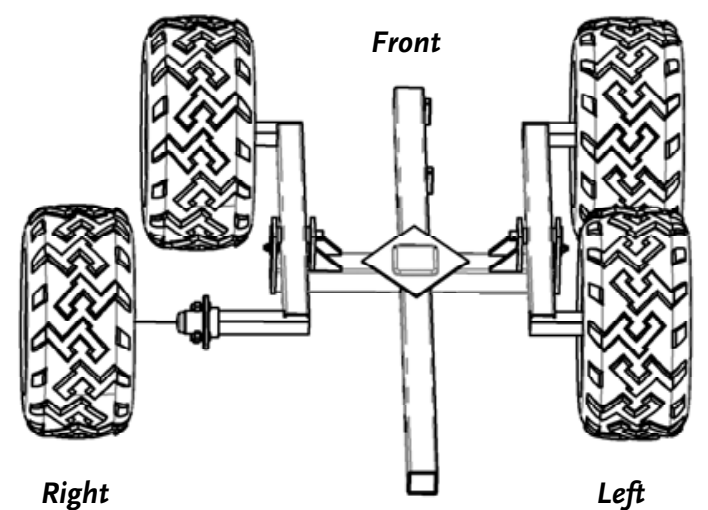
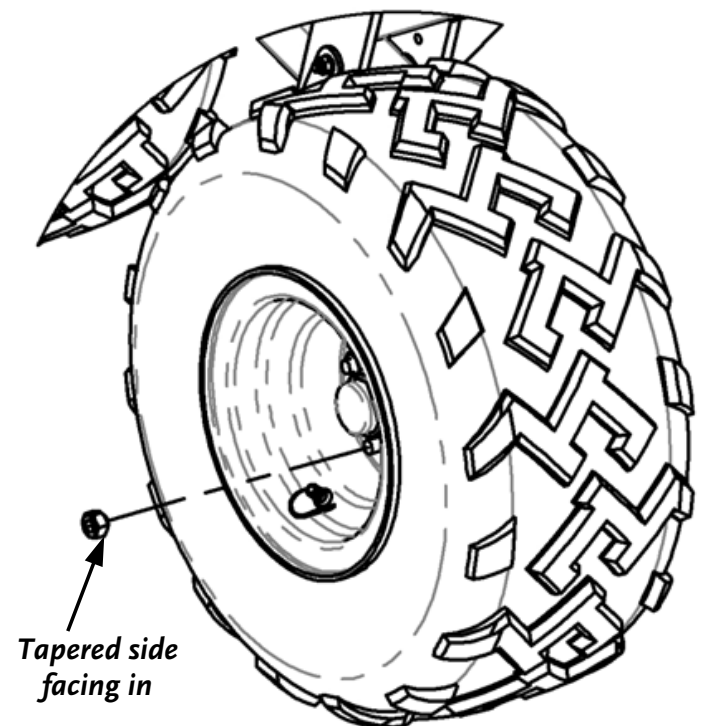

Figure 8
Figure 9
**NOTE:** The Wheels are marked L (Left) and R (Right), as they are directional Tires. Since the Main Frame is upside down, the Left Wheels should be installed on the Right Side and the Right Wheels on the Left Side (**Figure 8**). Make sure the Valve Stem(s) face outwards. The Lug Nuts must be installed with the tapered side of the Nuts facing the Hub of the Wheel (**Figure 9**).